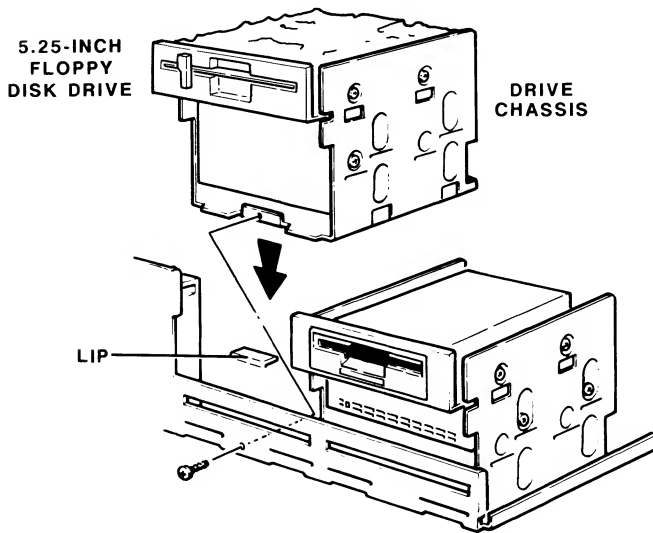

Figure 5-17. Reinstalling the Drive Chassis
8. Reinstall the left drive bracket and drive into the computer by sliding it toward the front of the computer. Make sure it catches the lip on the chassis and that the drives line up with the openings in the chassis. (Refer to Figure 5-17.)